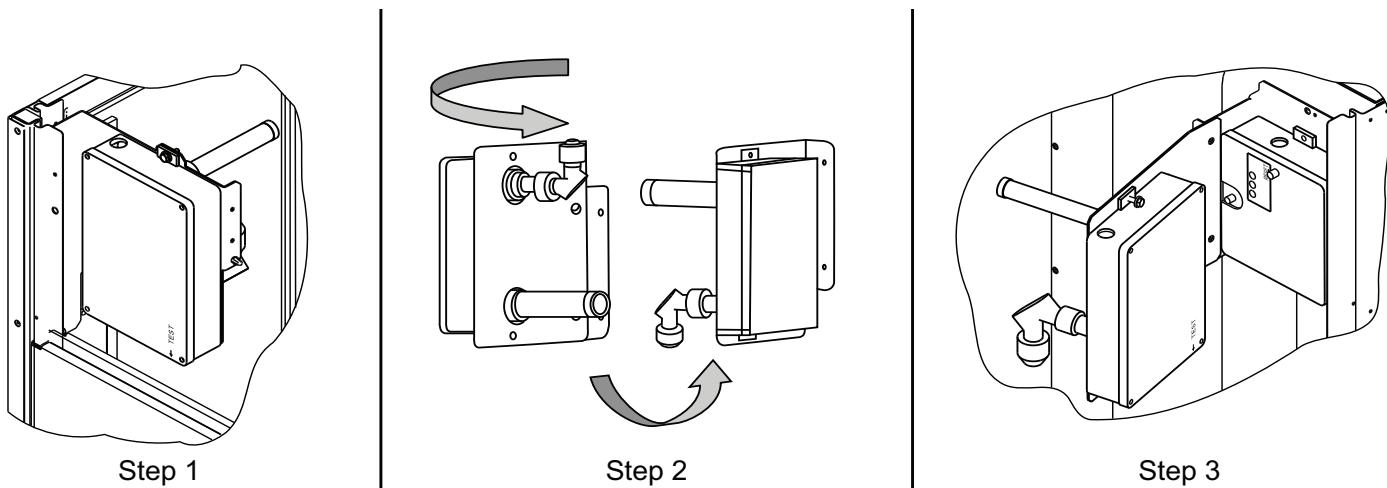

Fig. 66 — Completing Installation of Return Air Smoke Sensor
1. Unscrew the 2 screws holding the Return Air Smoke Detector assembly. See Fig. 66, Step 1. Save the screws.
2. Turn the assembly 90 degrees and then rotate end to end. Make sure that the elbow fitting is pointing down. See Fig. 66, Step 2.
3. Screw the sensor and detector plate into its operating position using screws from Step 1. See Fig. 66, Step 3.